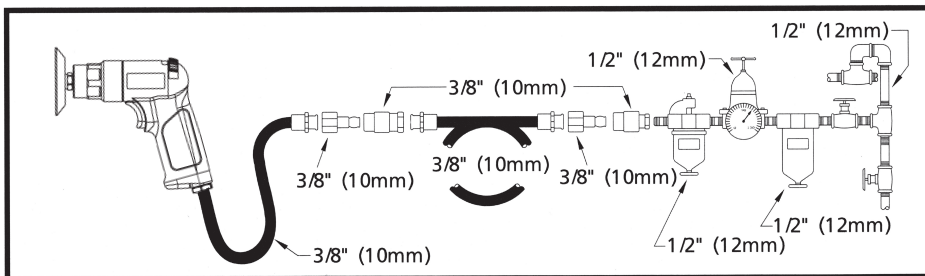

Figure 2 - Air Diagram
- Supply tool with 90 PSI of clean, dry air. Higher pressure drastically reduces tool life. Connect tool to air line using pipe, hose and fitting sizes shown in Figure 2. Do not install a quick coupler directly into the grinder throttle handle.
Shut off air supply, drain hose of air pressure and disconnect tool from air supply when not in use, before changing accessories or when making repairs. Never direct air at yourself or anyone else. Whipping hoses can cause serious injury-Always check for damaged or loose hoses and fittings. Do not use quick disconnect couplings at tool. See Figure 2 for correct set-up. Whenever universal twist couplings are used, lock pins must be installed.